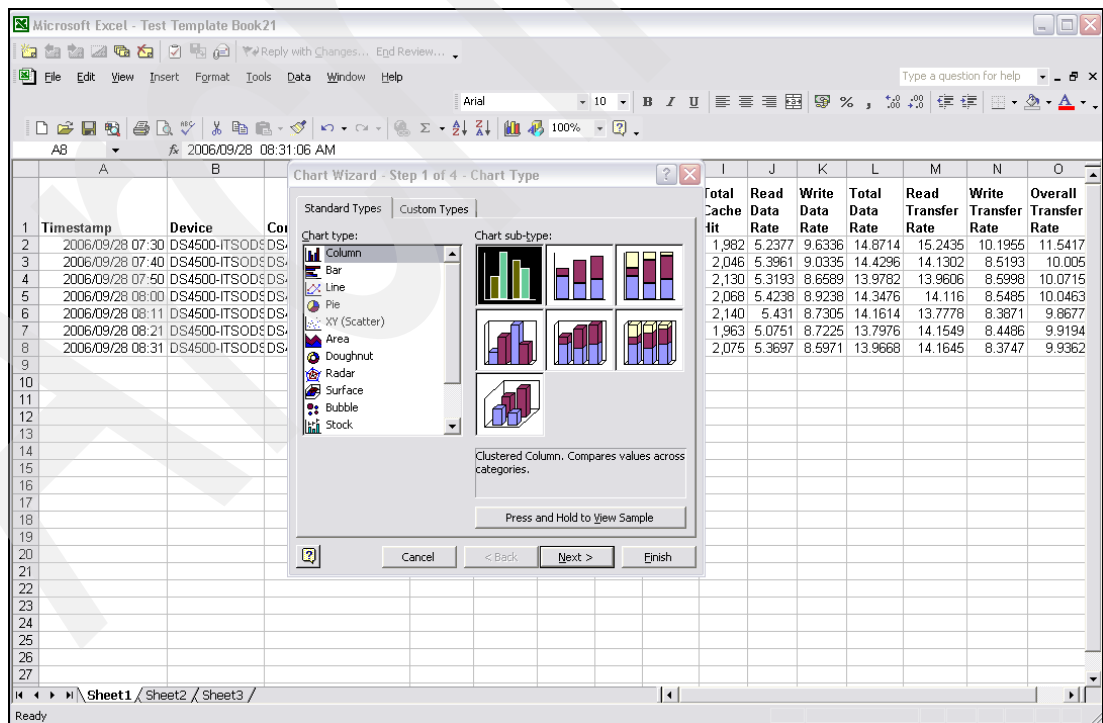

Figure 6-75 Begin Chart Wizard
- You need to utilize the chart wizard to plot the values onto the graph. Select **Insert** → **Chart Wizard** as shown in Figure 6-75.